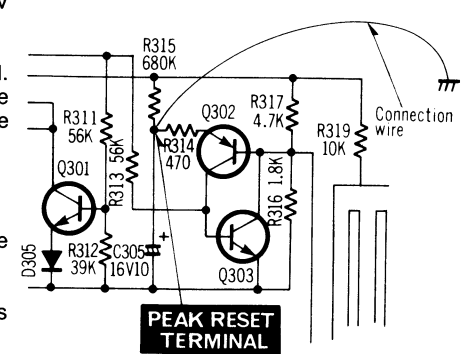

Fig. 16
2. Connect a wire between peak reset terminal and ground (See fig. 16).